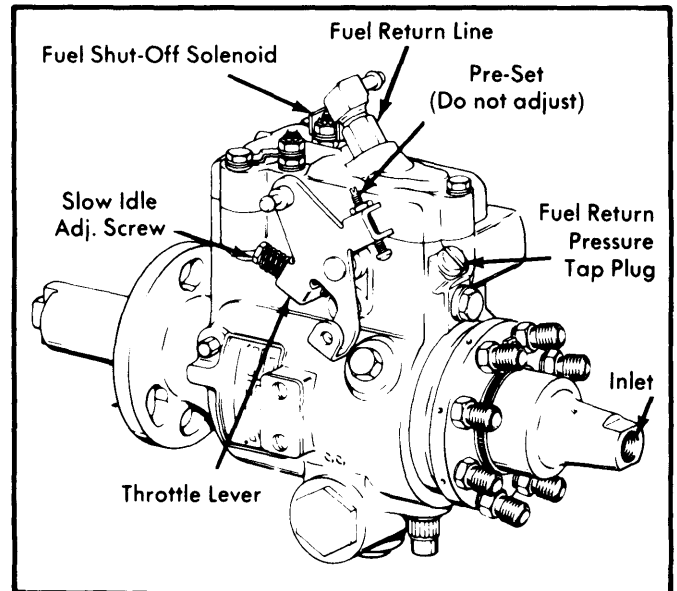

Fig. 6 Diesel Injection Pump Locations
2) Adjust slow idle screw on injection pump to obtain specification shown on emissions decal. See Fig. 6.
- 1) Remove air crossover. Install screened covers (J-26996-2). Remove fuel return pressure tap plug. See Fig. 6.